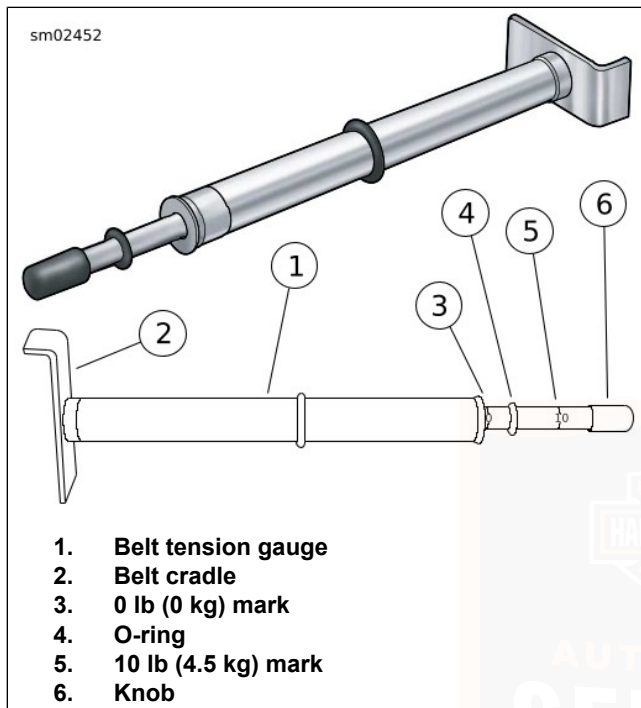

Figure 99. Belt Tension Gauge
3. See Figure 99. Measure belt deflection using: